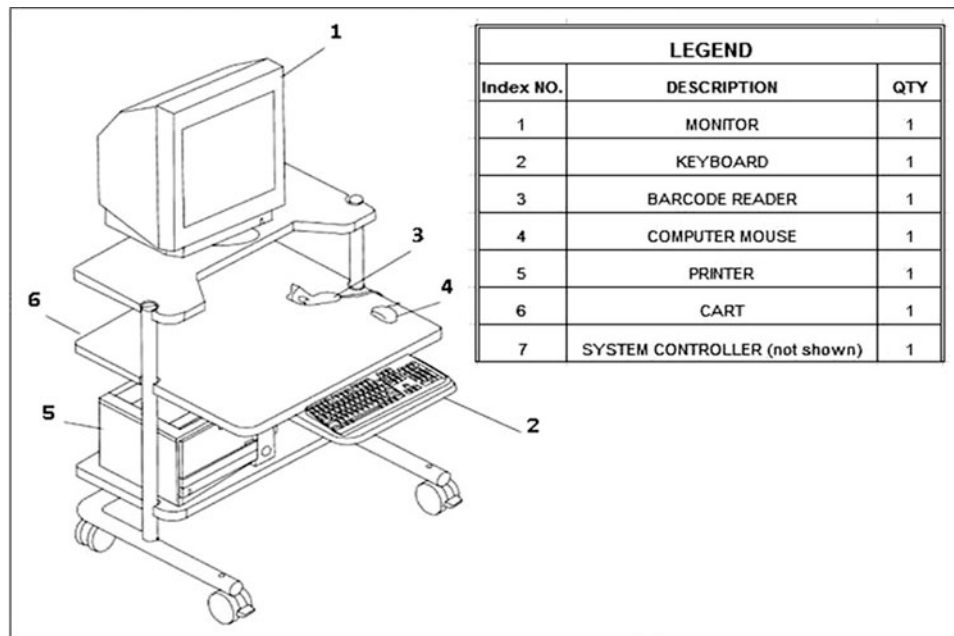

Figure 4-4. Computer workstation.
- Cart (fig. 4-4).
The legend in figure 4-4 lists the equipment used within the computer group. As previously mentioned, we will discuss these items in more detail in the 7-level CDC.